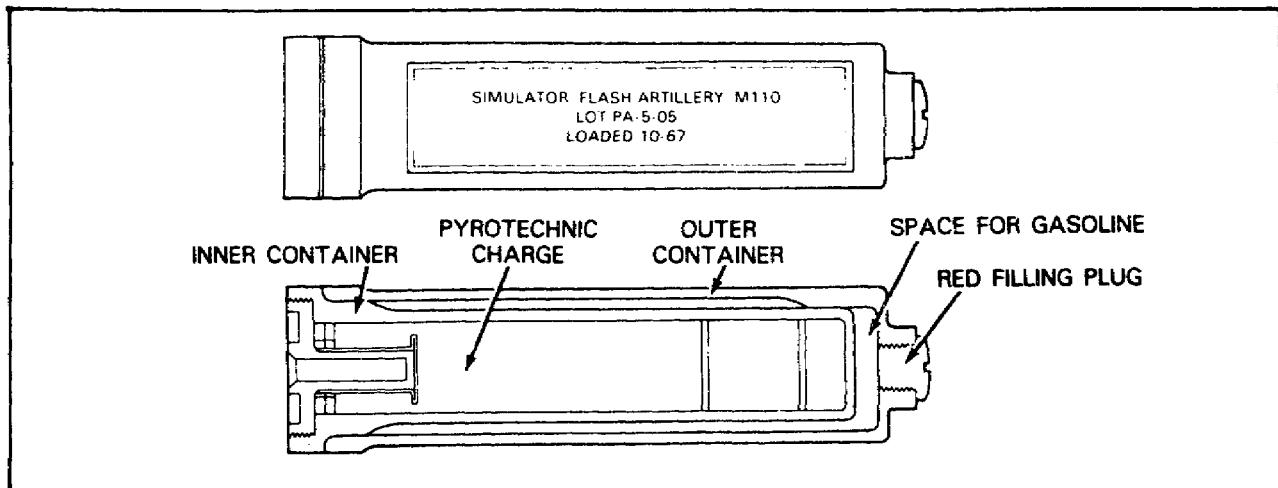

Figure 109. Simulator, Flash, Artillery, M110.
**Simulator, Flash, Artillery, M110.** In training, the simulator, flash, artillery, M110 (Figure 109) is used to simulate battle conditions. In forward combat areas, it is used as a decoy to make a flash similar to that of the 155mm howitzer projectile, HE. This simulator consists of an inner and an outer container. The inner container is filled with pyrotechnic compound. The outer container has a filler plug for filling with gasoline. The simulator is made of black plastic. It has a white label and black markings.